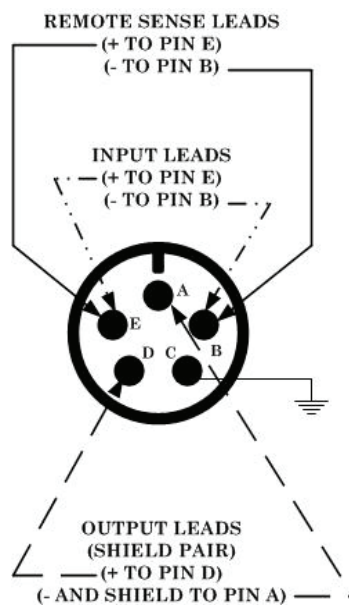

Figure 1. Test instrument rear connector - pin connections.
b. Configure multimeter as listed in (1) through (6) below:
- (1) **DCV.**
- (2) **RANGE AUTO.**
- (3) **NDIG 8.**
- (4) **NLPC 200.**
- (5) **Trig SGL.**
- (6) **Guard** pushbutton to **Open** (released).
c. Connect high quality test leads to TI as illustrated in figure 1 below.